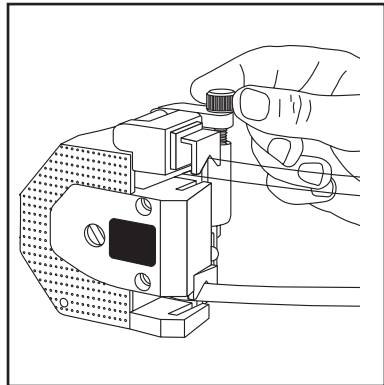

Figure 5-4. Adjusting the Clamp Screw
4. Refer to Figure 5-4. Tighten the Clamp Screw (4) until the Clamp Plate (3) contacts the tubing, securing it in place.